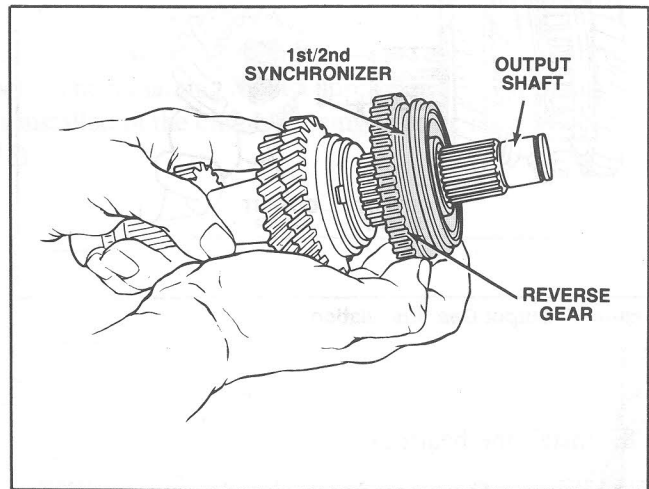

Figure 95 Synchronizer Installation
**NOTE:** The reverse gear faces second gear. (Figure 95.)